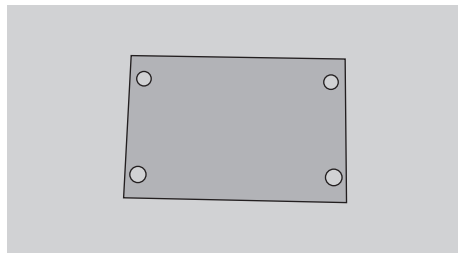

Figure 2
- 2 x Backing Plate, As indicated in Figure 2.
2 x Backing Plate, As indicated in Figure 2.